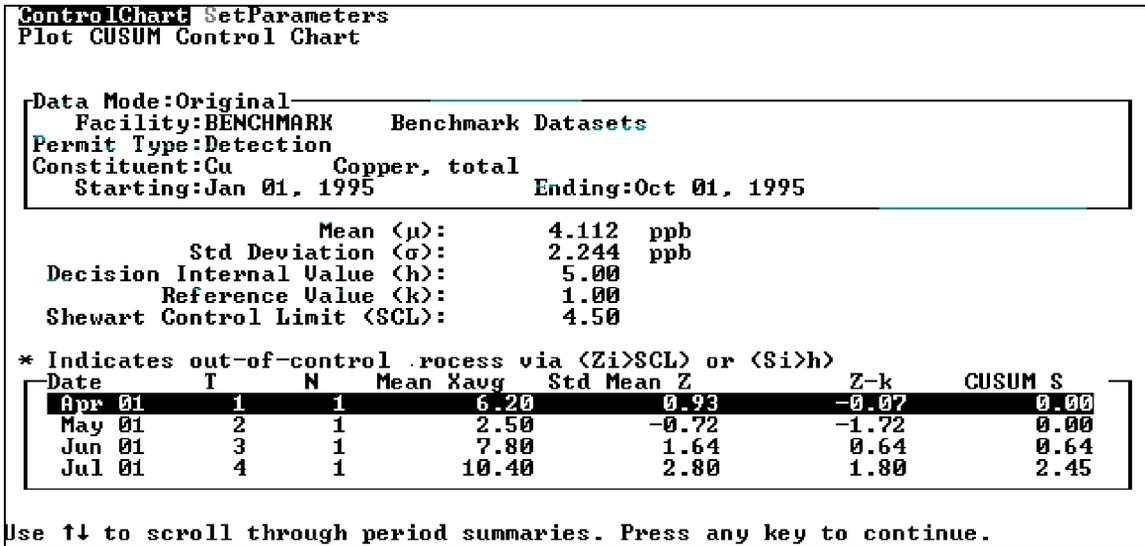

Figure 5-128. The Shewhart-CUSUM window and Period Summary.
8. The Shewhart-CUSUM window appears on your screen as shown in Figure 5-128. Observations from the well that the control chart is constructed on appear in the Period Summary. The statistics displayed in the Shewhart-CUSUM window are described in Table 5-36.